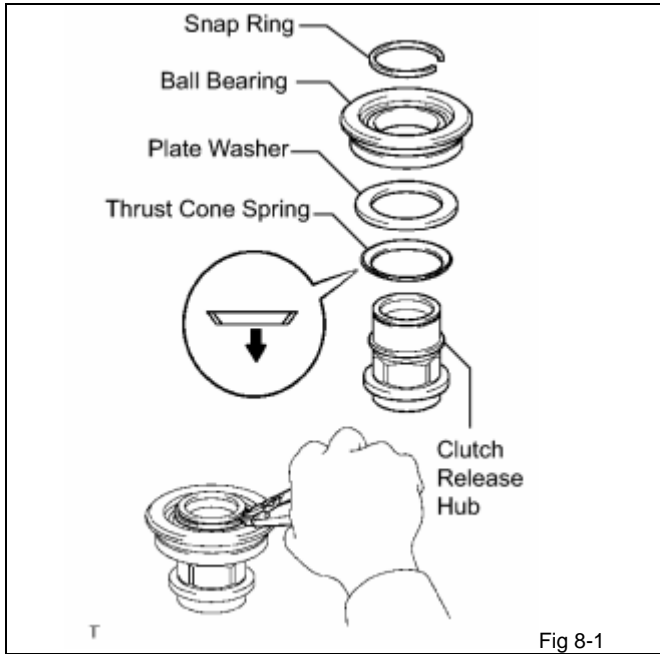

Fig 8-1
- (a) Install the thrust cone spring, thrust cone spring plate washer and supplied clutch release hub bearing to the clutch release hub as shown in the illustration. (Fig 8-1)